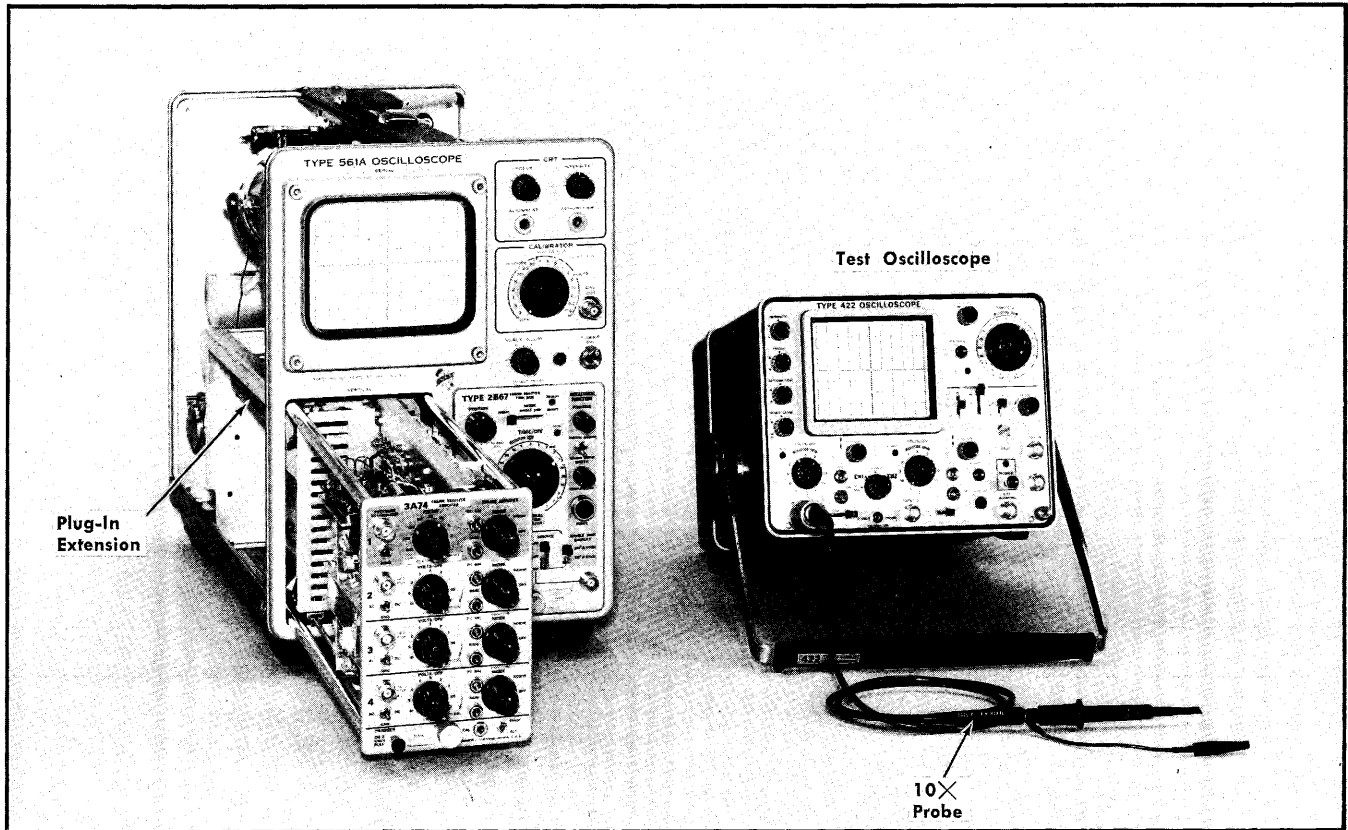

Fig. 5-3. Equipment arrangement for step 1.
b. The preliminary control setup applies. The equipment arrangement is shown in Fig. 5-3.
c. Remove the 3A74 from the assembly and install a plug-in extension (item 12) into the Oscilloscope. Connect the 3A74 to the extender. Connect all equipment to appropriate power sources. Energize the Oscilloscope and test equipment to be used and permit 5 minutes warmup time before continuing. Adjust the Oscilloscope INTENSITY and FOCUS controls as necessary to obtain a sharp trace having an intensity consistent with good viewing.